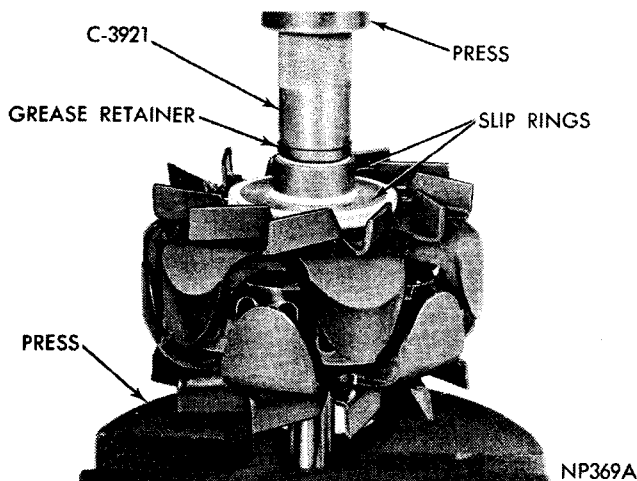

Fig. 28—Installing Grease Retainer
(1) Position grease retainer on rotor shaft and press retainer on shaft with installer Tool C-3921 (Fig. 28). The plastic retainer is properly positioned when the inner bore of the installer tool bottoms on the rotor shaft.
(2) Position rectifier end shield bearing on base of Tool C-4201. Place alternator end shield on top of